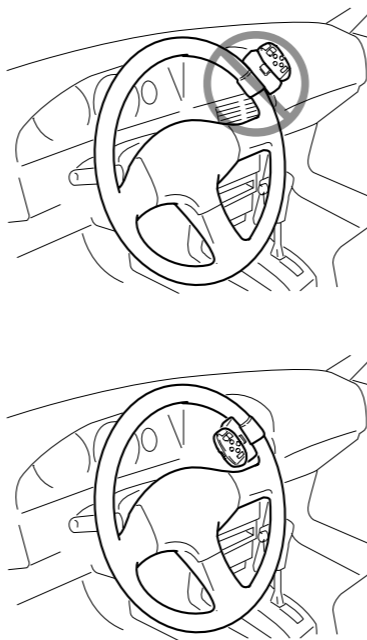

Fig. 14
- Do not attach this unit to the outer circumference of the steering wheel. Otherwise, it disturbs driving stability, causing a traffic accident. Always attach this unit to the inner circumference of the steering wheel as shown. (Fig. 14)